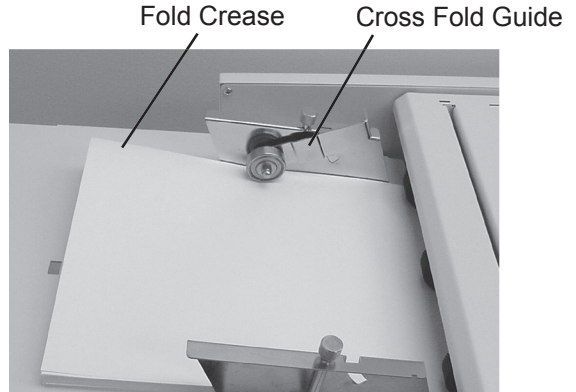

Fig. 13
1. Load folded paper into the feed tray with the fold crease facing the non-operator side of the folder (Fig 13).